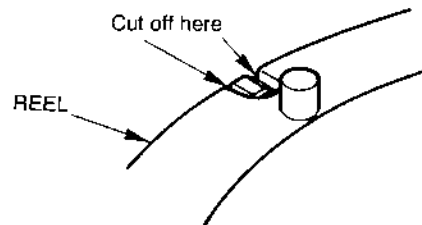

Fig. 72
- (1) Cut off a part of the reel shown in Fig. 72 with a nippers or a knife to form a which is required when pre-winding the spring.